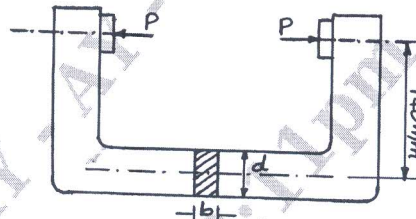

Fig.Q1(c)
c. A C-clamp shown in Fig.Q1(c) carries a load of 25 kN. The cross-section of the clamp is rectangular and the ratio of depth to width (d/b) is 2:1. The clamp is made of cast steel of grade 20-40 ($\sigma_y = 400 \text{ N/mm}^2$) and the factor of safety is 4. Determine the dimension of the cross section of the clamp.